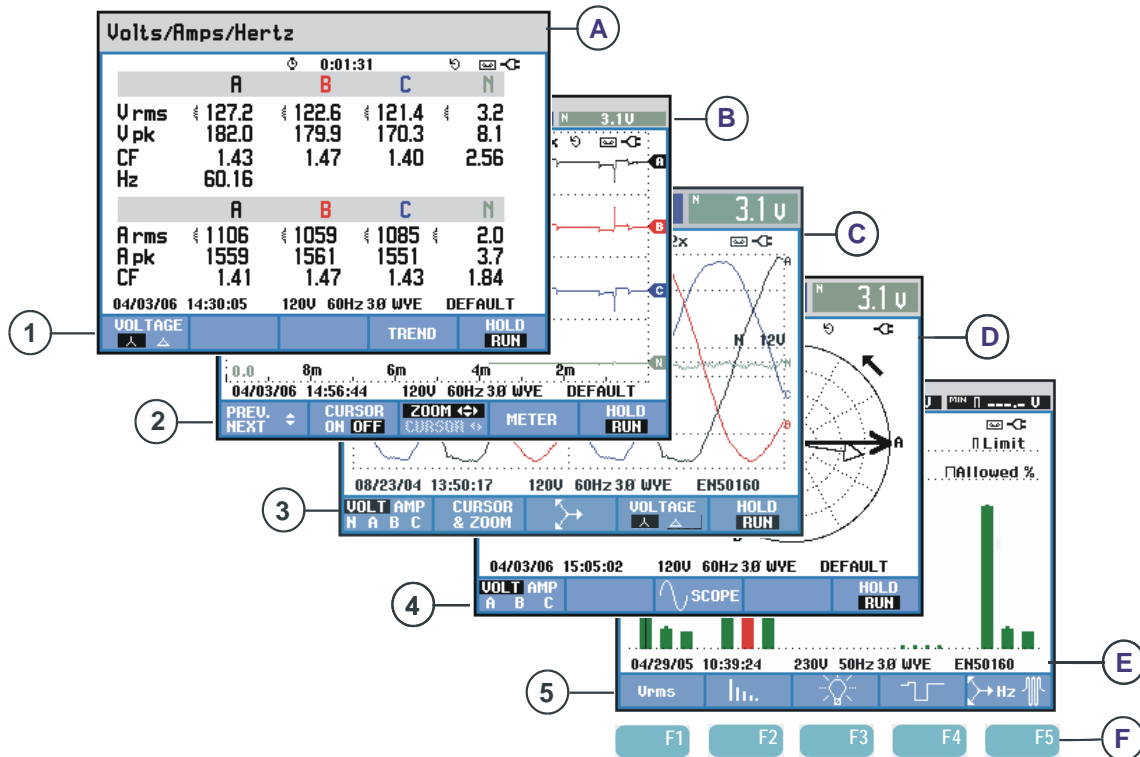

Figure 5-1. Survey of Display Types
Below you will find a brief description of each screen type and its purpose. The measuring mode it is used for is given as well as the manual chapter with detailed information. Bear in mind that the amount of screen information depends on the number of phases and the wiring configuration. Refer to Figure 5-1, item 1 ... 5.
- ① Meter screen: gives an instantaneous overview of a big number of important numerical measuring values. Used for: Volts/Amps/Hertz (Chapter 8), Dips & Swells (Chapter 9), Harmonics (Chapter 10), Power & Energy (Chapter 11), Flicker (Chapter 12), Unbalance (Chapter 13), and Power Quality Monitoring (Chapter 18).
- ② Trend screen: this type of screen is related to a Meter screen. Trend shows the course over time of measuring values from the Meter screen. After selection of a measuring mode, the Analyzer starts recording all readings in the Meter screen. Used for: Volts/Amps/Hertz (Chapter 8), Dips & Swells (Chapter 9), Power & Energy (Chapter 11), Flicker (Chapter 12), and Inrush Currents (Chapter 15).
- ③ Waveform screen: shows voltage and current waveforms as displayed on an oscilloscope. Channel A (L1) is reference channel and 2 complete cycles starting at 0 volt are displayed. The nominal voltage and frequency determine the measuring grid size. Used for: Scope Waveform (Chapter 7) and Transients (Chapter 14).
- ④ Phasor screen: shows the phase relation between voltages and currents in a vector diagram. The vector of reference channel A (L1) points to the positive horizontal direction. The A (L1) amplitude is also reference for the measuring grid size. Used for: Scope Phasor (Chapter 7) and Unbalance (Chapter 13).
- ⑤ Bar Graph screen: shows the density of each measuring parameter as a percentage by means of a Bar Graph. Used for: Harmonics (Chapter 10) and Power Quality Monitor (Chapter 18).